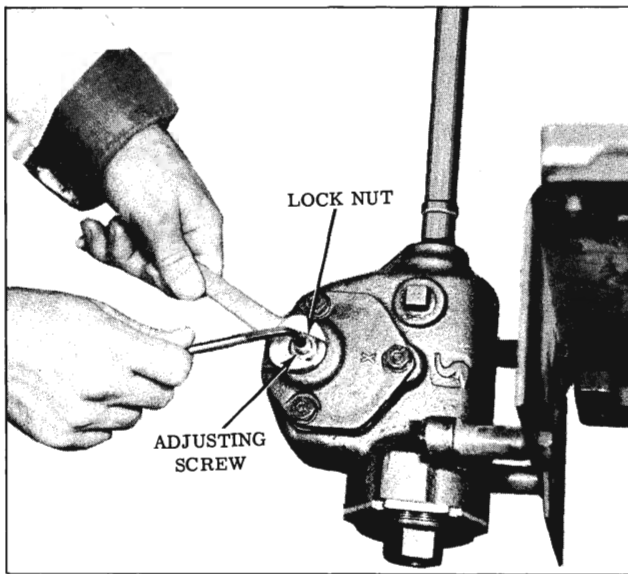

Fig. 4-7 Over-Center Adjustment
6. After making the worm bearing adjustment, the pitman shaft adjusting screw should be tightened until a pull of 5 to 11 inch pounds in excess of worm bearing preload is required to turn the wheel through the center range. (Approximately 2-7/8 turns from either end of travel on car or 3-1/8 turns for bench adjustment.) (Fig. 4-7) Tighten the lock nut 18 to 27 ft. lbs. and recheck the over-center adjustment.